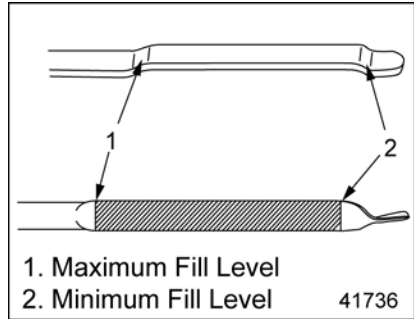

Figure 24 Oil Dipstick
5. Approximately five minutes after shutdown, check the engine oil level. If necessary, add oil up to the maximum fill level on the oil dipstick (see Figure 24). Do not overfill.